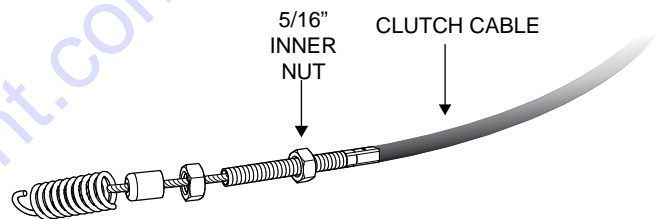

Figure 18. Inner Nut Adjustment
- Adjust the 5/16" inner nut (Figure 18) for a 7/8" distance from the threaded end on the clutch cable to the inner nut.